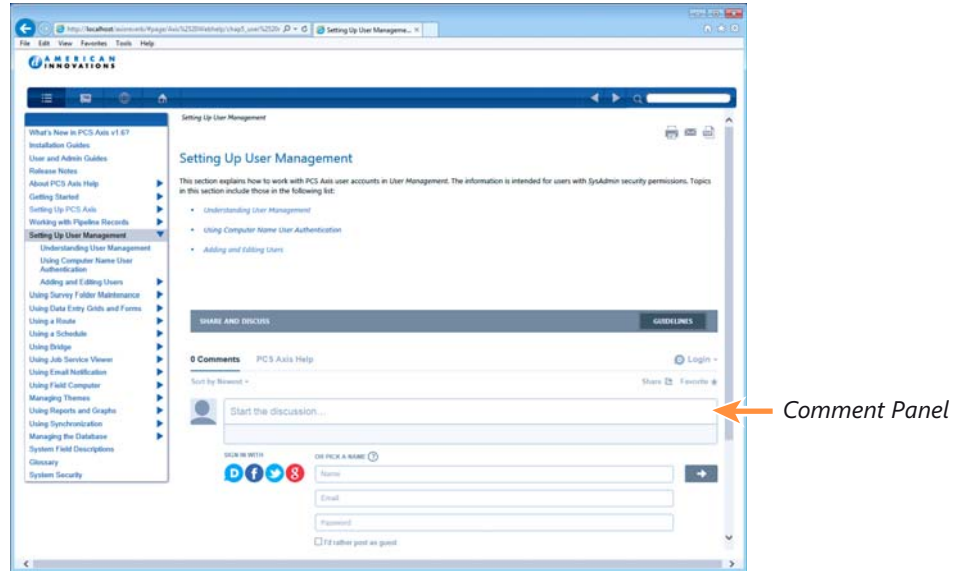

Figure 1-4. Posting a Comment as a Guest
- 2** In the comment panel of the selected help topic, type a comment in the text box **Start the discussion** (Figure 1-4, page 8).
- a** Click the **Name** text box to display fields requiring data entry (Figure 1-4, page 8).